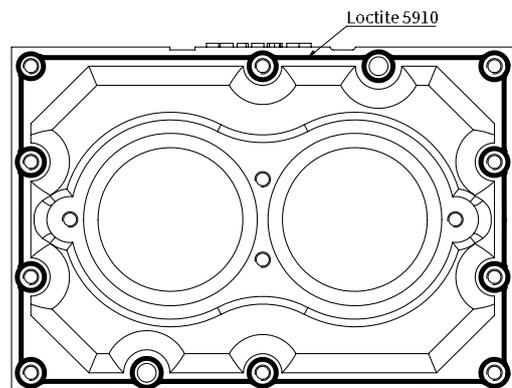

Fig. 12.25
- Use Loctite 5910 to seal the adaptor stool onto the bearing housing see Fig. 12.25